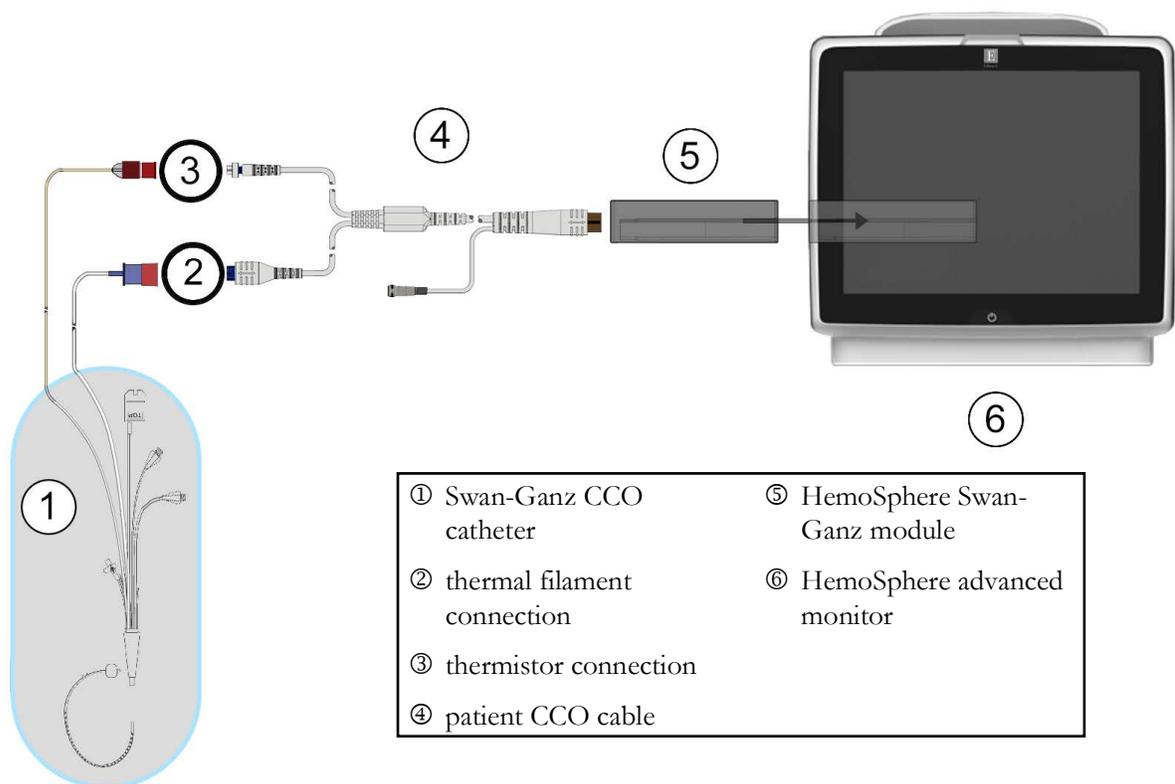

Figure 9-4 CO connection overview
- 2 Attach the catheter end of the patient cable to the thermistor and thermal filament connectors on the Swan-Ganz CCO catheter. These connections are emphasized as numbers ② and ③ in figure 9-4 on page 168.